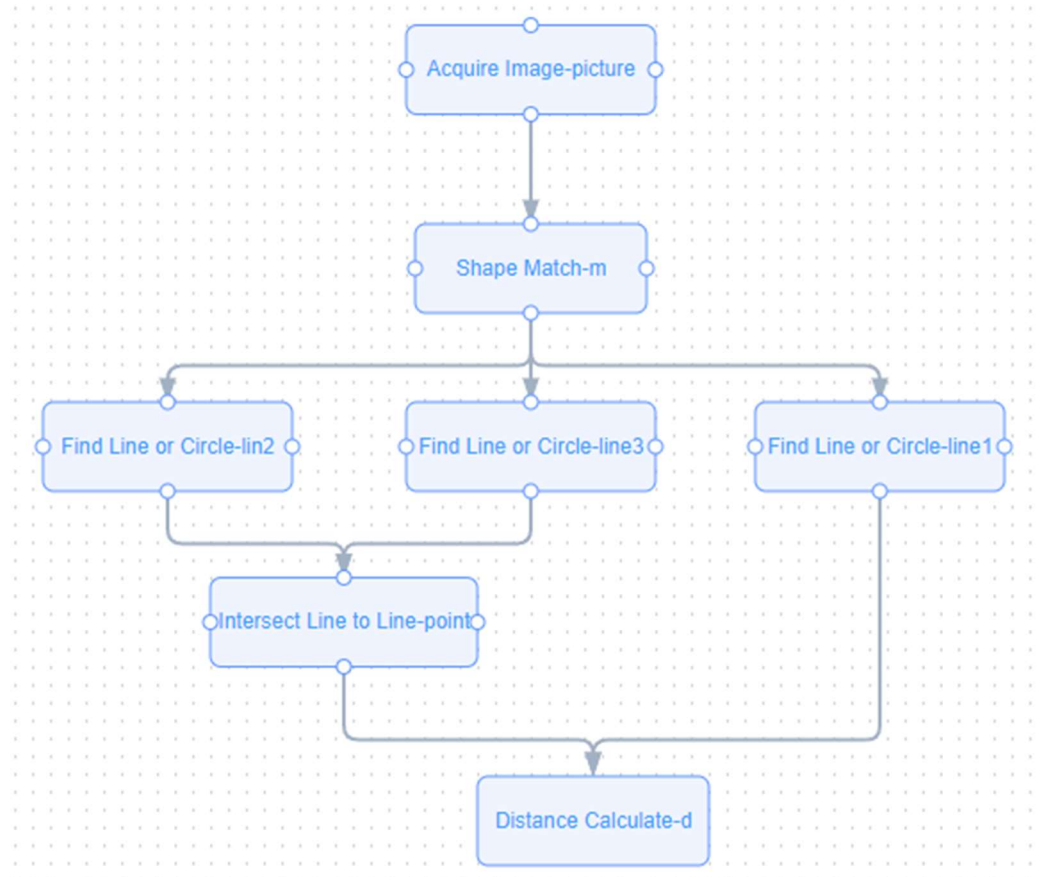

Figure 9.2.1 Visual Flowchart
Step 1: Set up each tool and draw the flowchart, as shown in Figure 9.2.1. The details of the tool settings refer to Chapter 4.